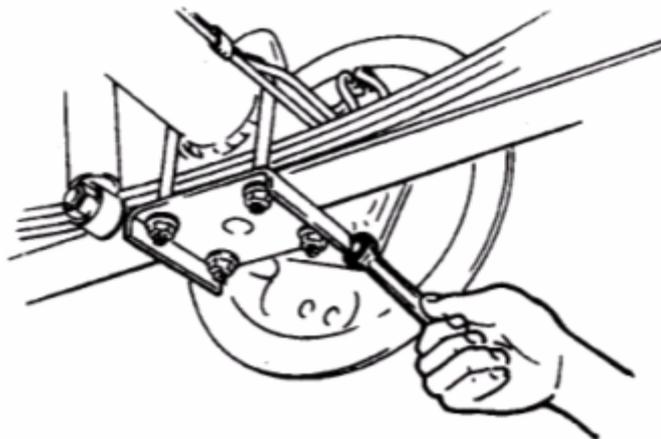

FIG 13-8
(11) Remove four nuts and washers of brake back plate from rear axle housing. (FIG.13-8)